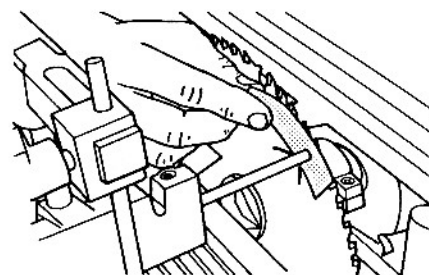

Fig. B-29
27. As before, insert the paper between the saw blade and the rod at the marked "X", as illustrated in Fig. B-29. (You may need to reset the rod adjustment.)